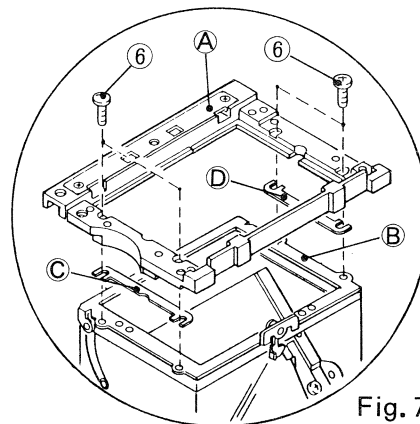

Fig. 78
1. Insert special washers ③ ④ into the gap between ① and ② Fresnel frames (Fig. 78) for adjustment.
③ Washer (left)		④ Washer (right)